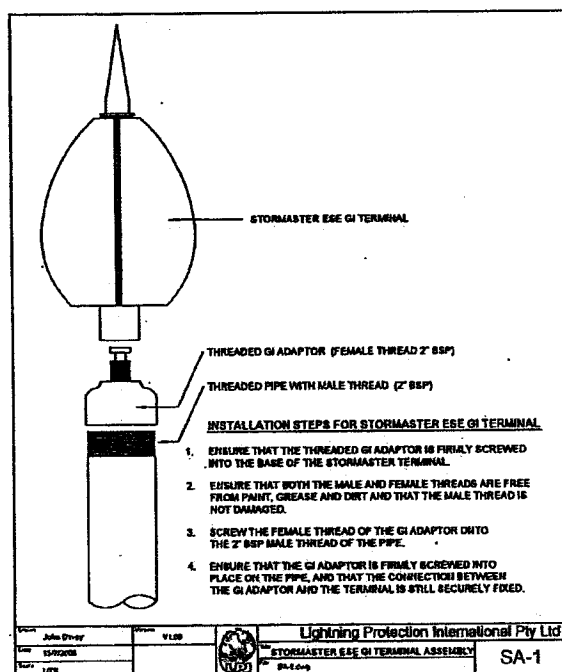

Figure 14.
LPI offers within its range of Stormaster terminals a GI version which is designed for a threaded connection to a 2 inch BSP GI pipe. Please refer to drawings STA-05 and STA-06 on pages 10 and 11 along with figure 14 for further details.
- Following installation of the Stormmaster GI terminal to the threaded pipe as per drawing STA-05 and figure 14 it will be necessary to connect the metallic pipe to a conventional downconductor in order to convey the lightning energy to the earthing system.